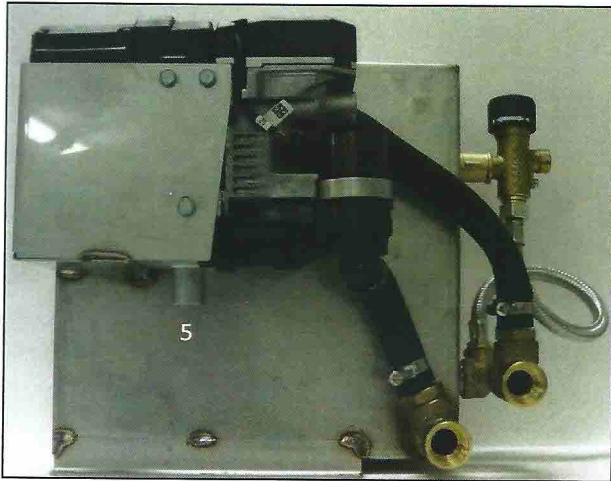

Fig 5A – Exhaust Outlet
- 5.1 Install the stainless steel exhaust pipe using the 25mm exhaust clamp to the exhaust gas outlet (Fig. 5A) (5). Webasto can supply exhaust lagging if required.